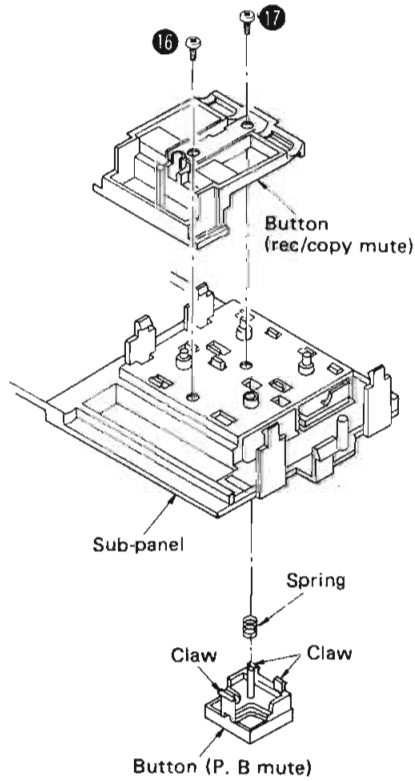

Fig. 5
2. Remove the sub-panel, and the 2 setscrews (Fig. 5 : 16 , 17) of rec/copy mute button, getting across from the back.
3. Release the claws of each button and remove the button. (See Fig. 5.)